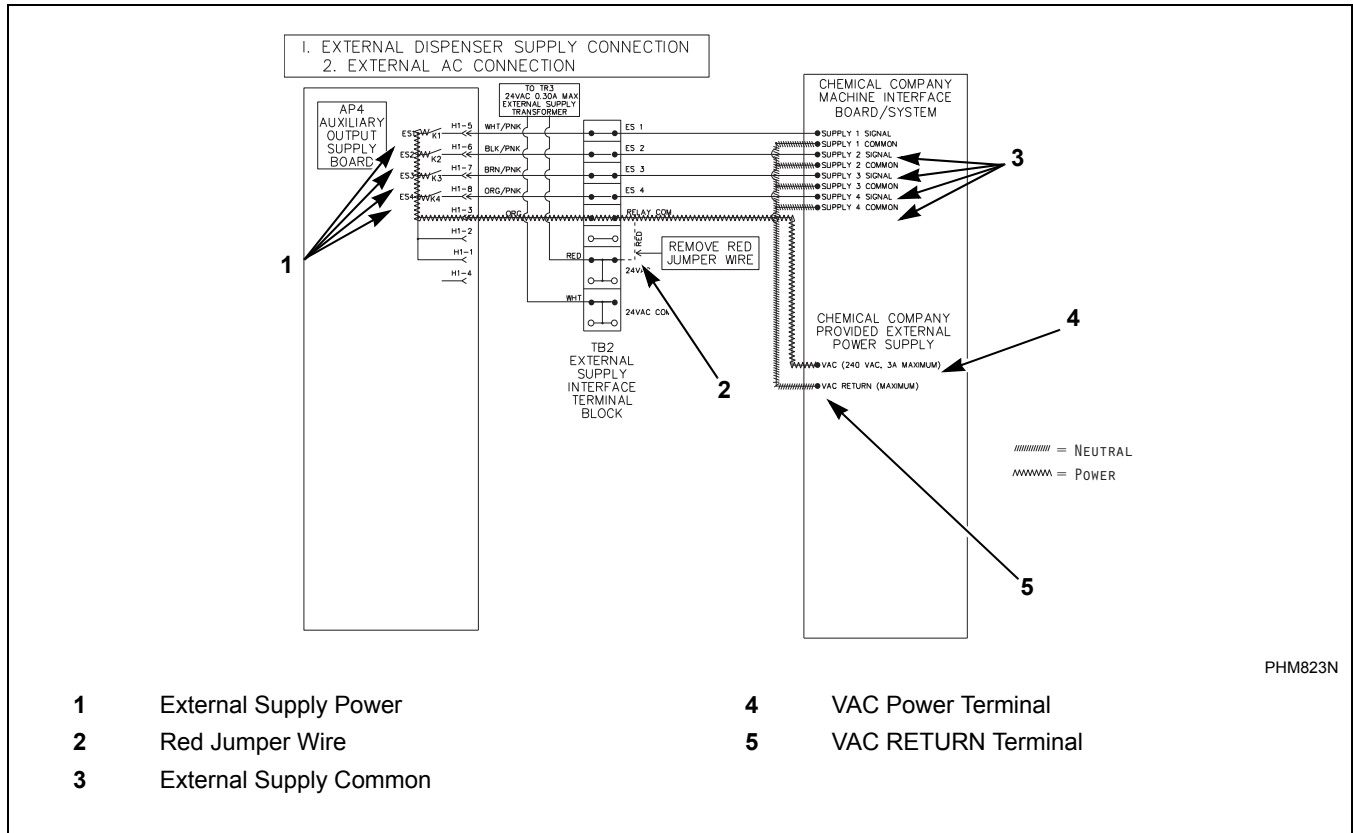

Figure 32
2. Connect one side of the external power to the “RELAY COM” and the other to the external dispenser input signals common. Refer to *Figure 32*.